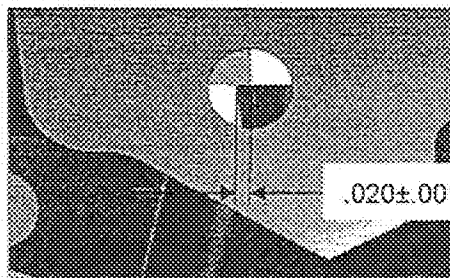

Figure 15
0.019" MIN lines on the comparator screen. See Figure 15.